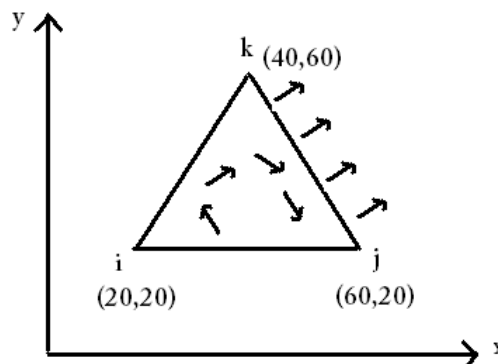

fig.9.
- (b) Summarize the element equations for the element shown in fig.9. Which experiences convection on the side j k and its upper face: Take  $k = 7.5 \text{ W/mm}^\circ\text{C}$ ,  $h = 0.15 \text{ W/mm}^2^\circ \text{ C}$ ,  $T_\infty = 20^\circ\text{C}$  and  $t = 1 \text{ mm}$ . (16)